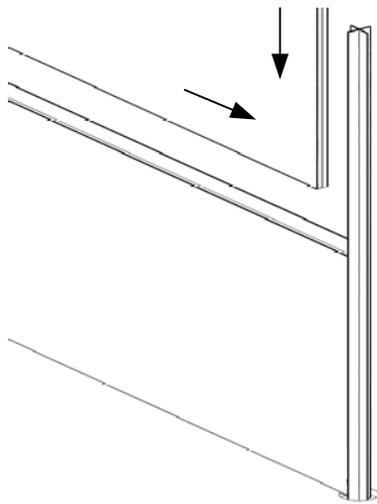

Figure 6
9. Onto seated Mid-rail Spine and Base Panel, and onto adjoining flange, first slide Top Panel, assuring that Panel slot is fully seated onto flange and spine (figure 6).